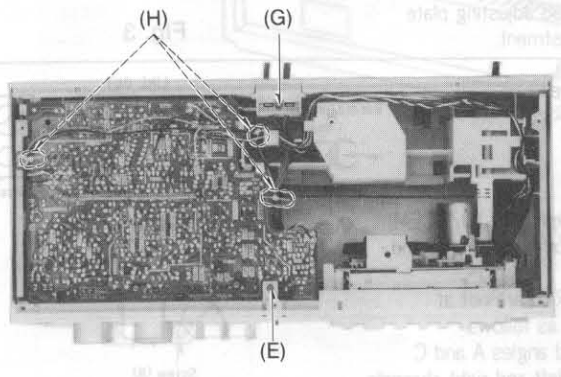

Fig. 3
<p>A Head position adjustment</p> <p>Condition:</p> <ul style="list-style-type: none"> • Playback and pause mode 	<p>(The head adjusting plate is provided to adjust the tape touch of the head in cue or review mode.)</p> <ol style="list-style-type: none"> 1. Press the playback button and pause button. 2. Measure the space between the pressure roller and the capstan. <div style="border: 1px solid black; padding: 5px; width: fit-content; margin: 10px auto;"> <p>Standard value: $0.5 \pm 0.3\text{mm}$</p> </div> <ol style="list-style-type: none"> 3. If the measured value is not within the standard value, untighten screw (A), and slide the head adjusting plate in the direction of arrow (B) for adjustment.  <p style="text-align: center;">Fig. 3</p>